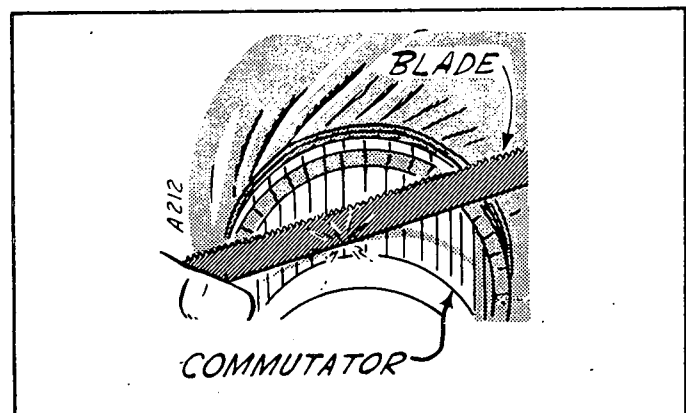

FIGURE 11. TESTING ARMATURE FOR OPENS.
1. Place the armature in the growler which is connected to alternating current. Rub a smooth steel blade (back edge of a hacksaw blade) across the segments of the commutator, Figure 11.